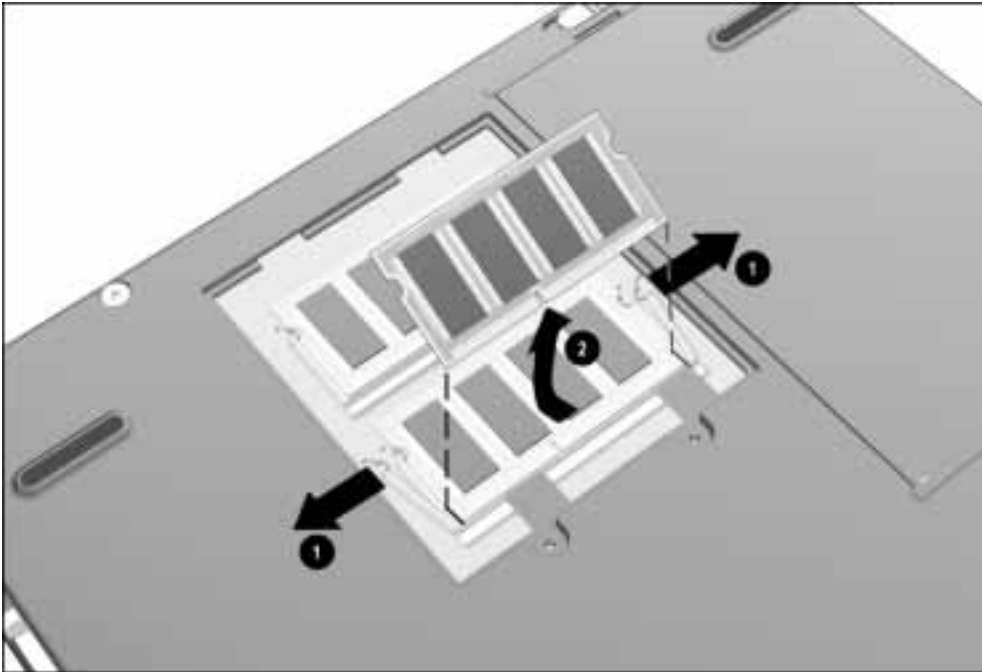

Figure 5-17. Removing a Memory Expansion Board
1. Push the spring retention tabs away from both sides of the memory board to release the board ❶ (Figure 5-17).
2. Lift up the edge of the memory board and slide the board out of the slot at a 45-degree angle ❷.